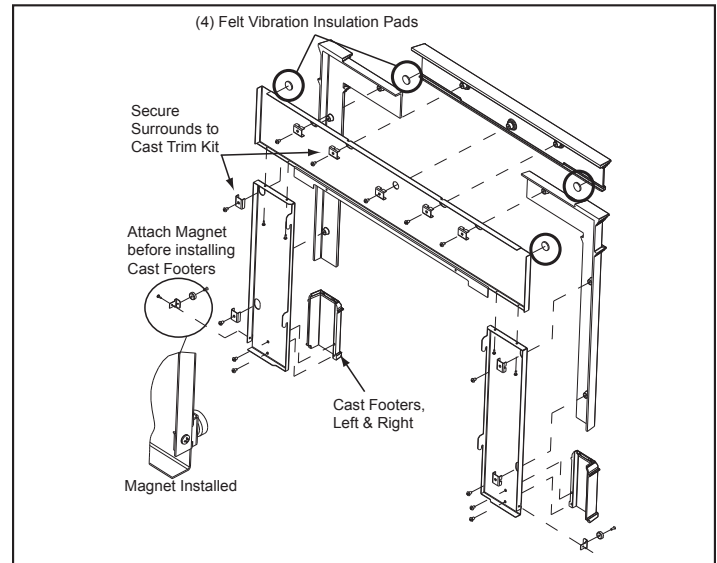

Figure 23.1
1. Place the peel and stick round felt vibration insulation pads on the front side in each corner of the top metal piece and on the back side in each corner of the top cast piece. **Figure 23.1**
- a) Place corresponding cast trim pieces (2 cast trim sides and 1 cast trim header) underneath the surround set, also face down. Align the holes in the metal pieces with the 5 bosses on the top cast piece and 2 bosses on each side piece. **Figure. 23.1**
- b) Attach the magnets to the magnet brackets with one countersink screw each. Attach magnet and bracket to the metal surround sides with magnet facing the front as shown in **Figure. 23.1**.